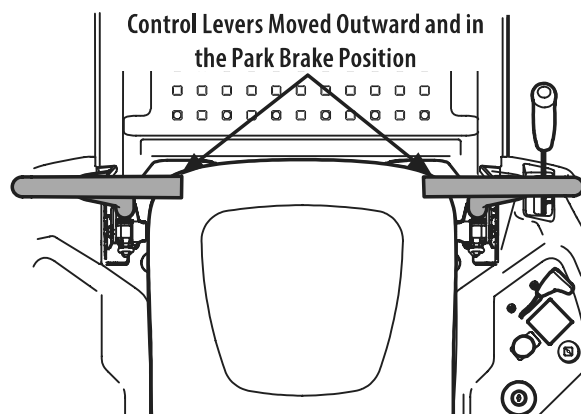

Figure 20
1. Operator should be sitting in the tractor seat with the lapbar drive control levers fully out and in the park brake position (Figure 20). Refer to Practice Operation (initial use) for further instructions.